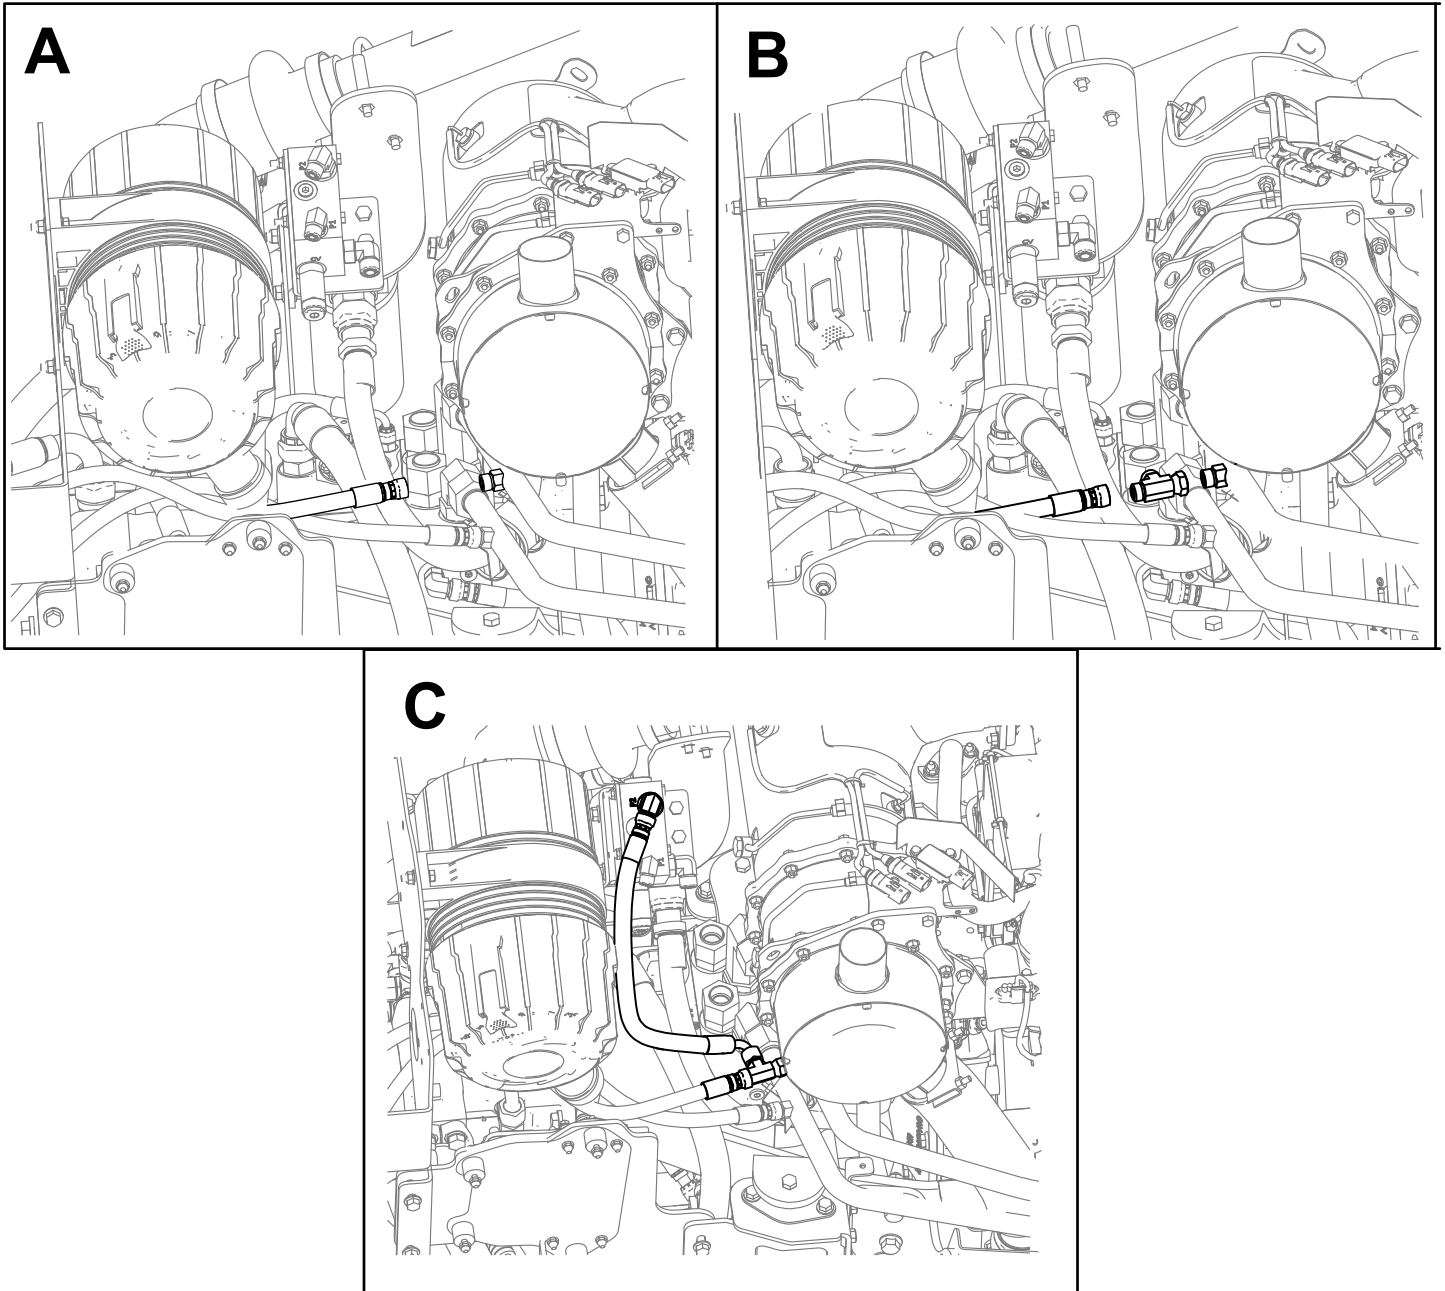

Figure 7
1. Disconnect the hose from the upper hard line going to the rotary hydrostat (Box A of Figure 7).
2. Install a small tee between the hard line fitting and the disconnected hose (Box B of Figure 7).
3. Connect the 43 cm (17-1/2 inch) hose to the P2 fitting to the tee fitting (Box C of Figure 7).